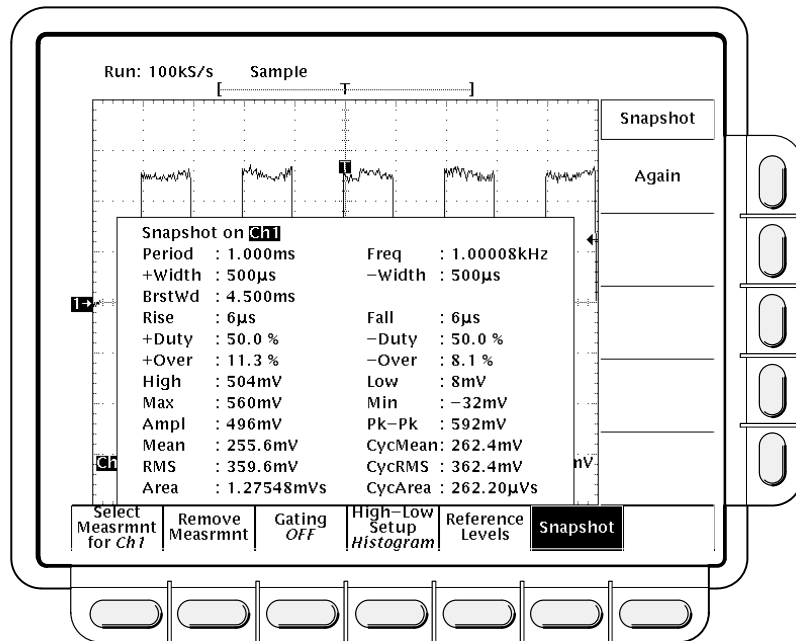

Figure 1-19: Snapshot of Channel 1
1. Press **Snapshot** (main) to pop up a snapshot of all available single waveform measurements. (See Figure 1-19).